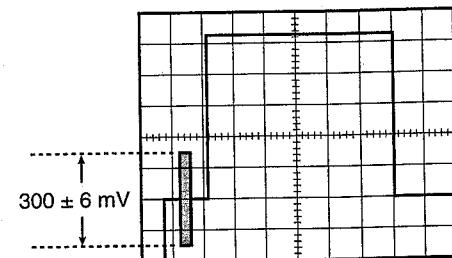

Fig. 4-2
- Adjust VR6 so that the White signal level becomes $300 \pm 6 \text{ mV}$ as shown in Fig. 4-2.